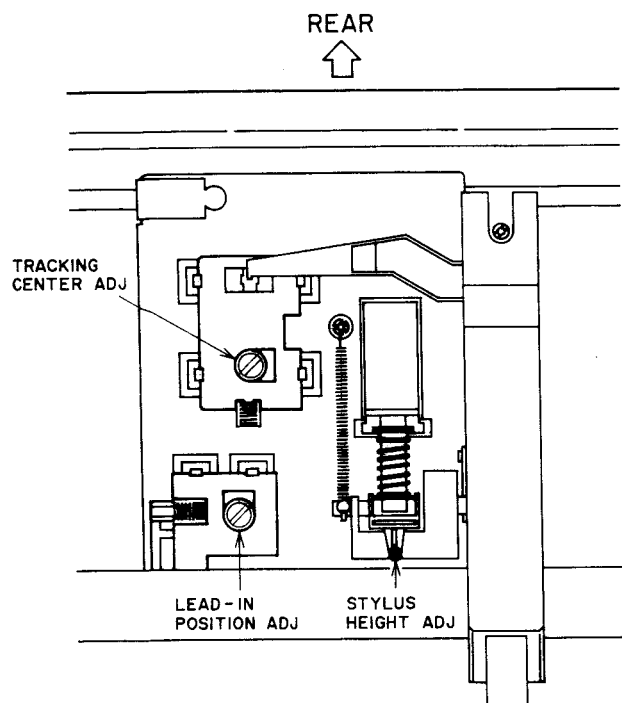

Fig. 6-1 Mechanical Adjustment Points
- 3) If this Lead-in position is incorrect it can be adjusted by turning the LEAD-IN POSITION ADJUSTMENT SCREW (Refer to Fig. 6-1).
- 2) Adjust TRACKING CENTER ADJUSTMENT SCREW (Refer to Fig. 6-1) so that the Digital DC Voltmeter Reading is $0.5 \pm 0.3 \text{ V}$.